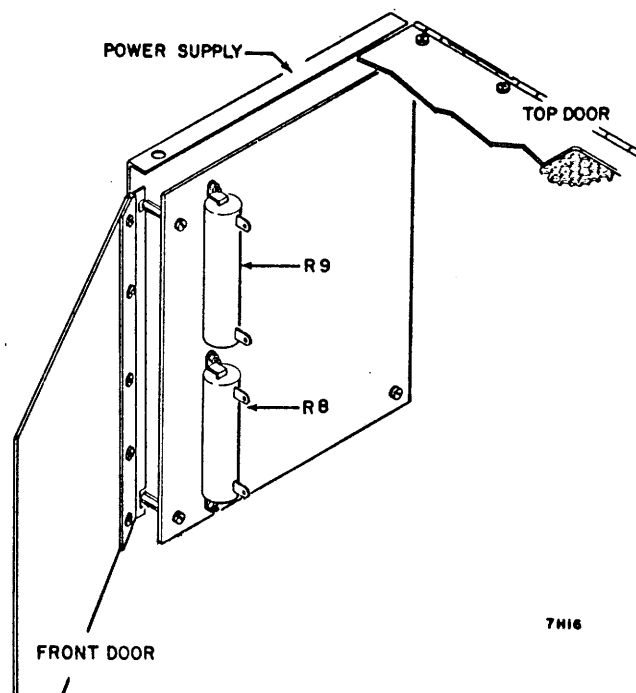

Figure 6-23. Power Amplifier Adjustment
5. Using a volt/ohmmeter and referring to Figure 6-23, measure the resistance between the top and bottom terminals of the 200-watt resistors R8 and R9.